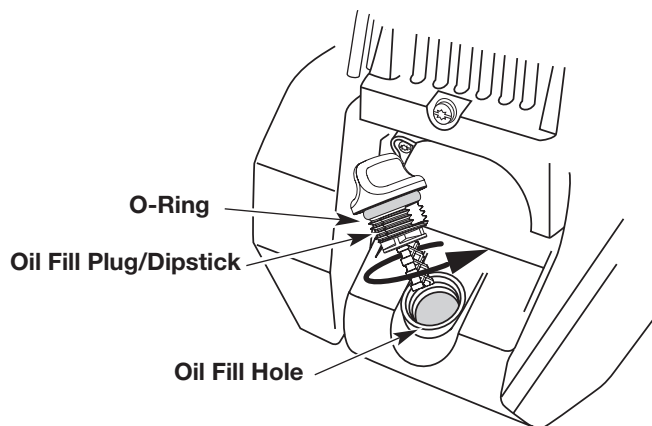

Fig. 16
3. Remove the oil plug / dipstick from the crankcase (Fig. 16).